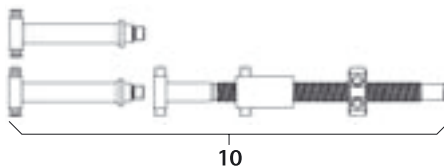

Fig. 14
- Mount spindle distractor 10, see Fig. 14.